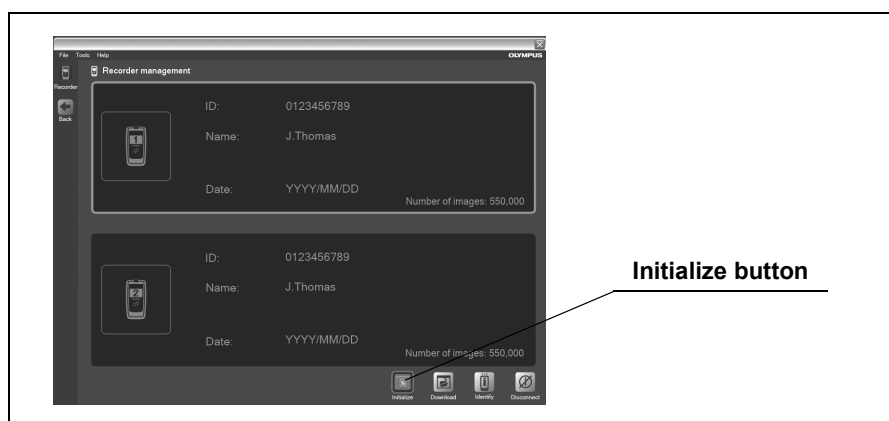

Figure 5.10
2. Click the [Initialize] button on the recorder management screen (see Figure 5.10). The initial settings screen is displayed.